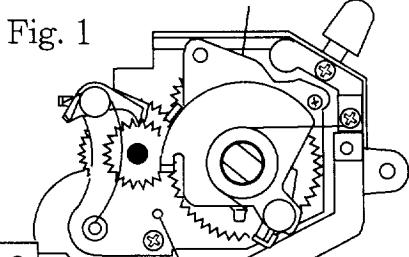

Fig. 1
- ① Temporarily set the film advance lever.
- ② Move the lever to advance film fully once.
- ③ Set film advance shaft unit A152 to the location as shown in Fig. 1.